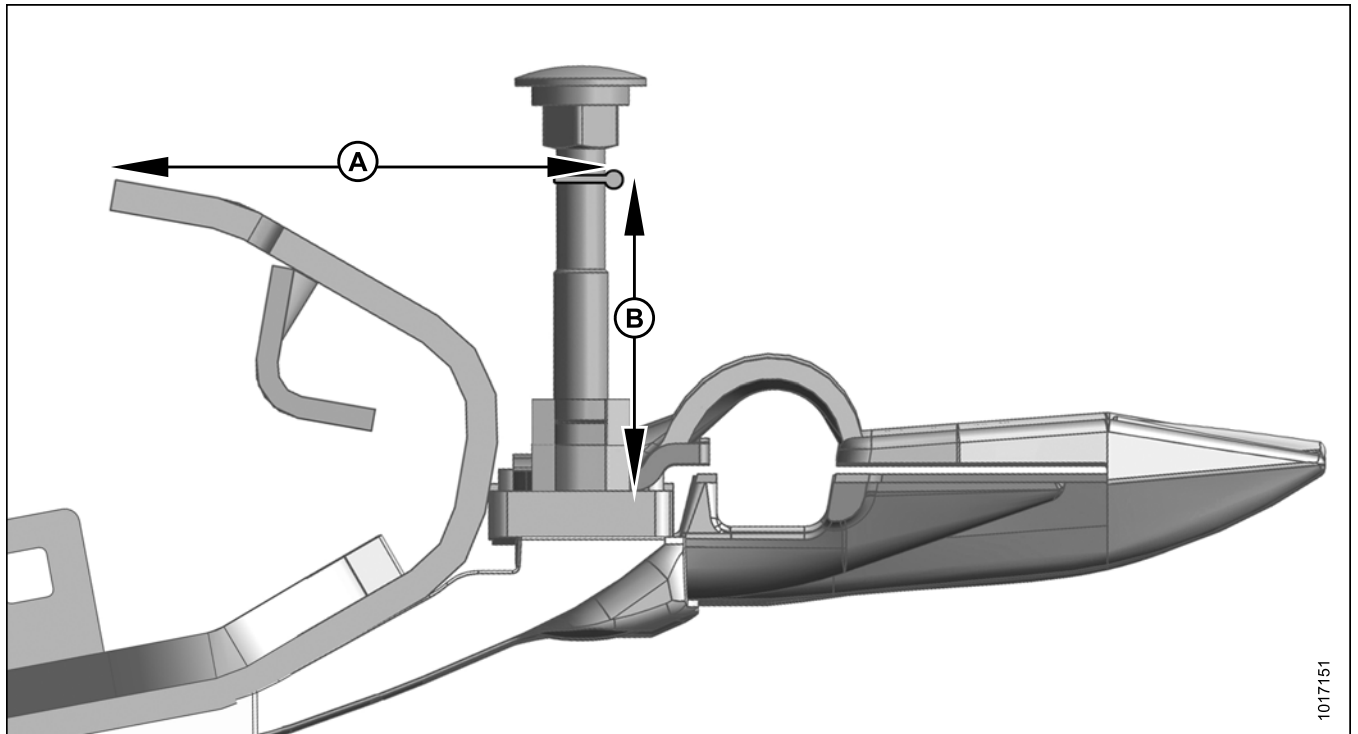

Figure 3.22: Side View of Cutterbar
12. To measure fore-aft wing position, measure distance (A) from the string to the back edge of the cutterbar at the center and outside positions. The difference between these measurements should be no more than 3/16 in. (5 mm). Refer to Figure 3.22: *Side View of Cutterbar*, page 21.
13. To measure vertical wing position straightness (frown or smile), measure distance (B) from the string to the cutterbar at center and outside wing positions. Wings should be straight, and the difference between the center and outside measurements should be no more than 3/16 in. (5 mm). Refer to Figure 3.22: *Side View of Cutterbar*, page 21.